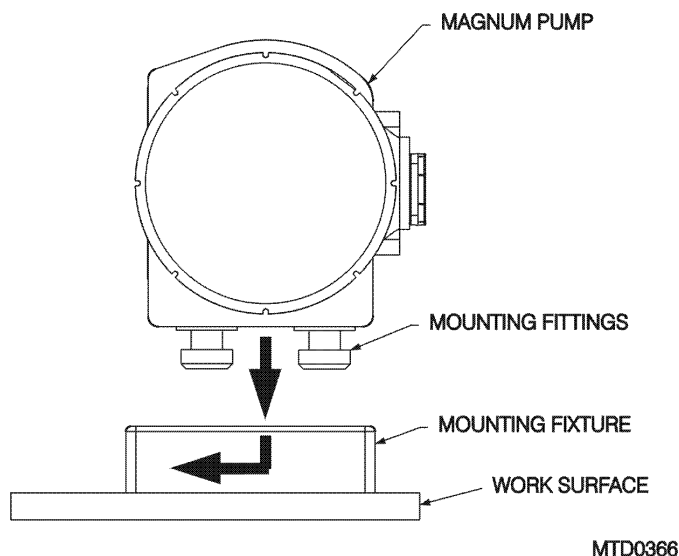

Figure 4-1
- Install mounting fittings in pump adapter ports (figure 4-1) and lock body into bench mounting fixture. **NOTE:** Securely attach mounting fixture to work surface using hardware provided.